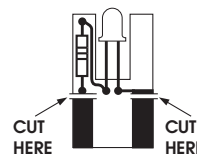
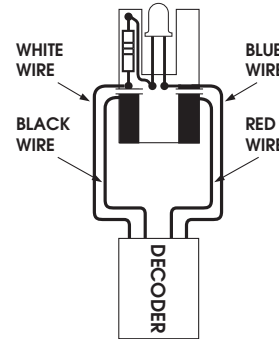
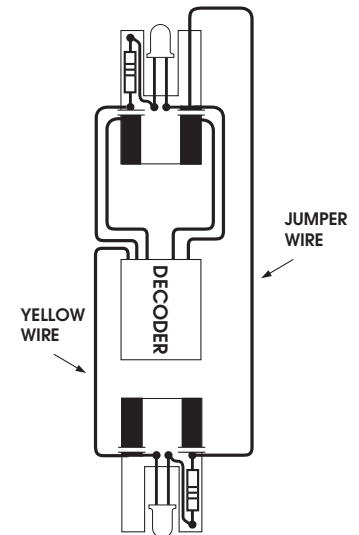

Fig. 1
Fig. 2
Fig. 3
- Lay the light boards out in front of you, parts side up as shown in Fig. 1. With a sharp hobby knife make 2 cuts in the circuit trace as shown (Fig. 1). Solder the BLACK, RED, BLUE and WHITE wires to front board as shown (Fig. 2). Solder YELLOW wire and a jumper (not supplied) to rear light board as shown in Fig. 3.